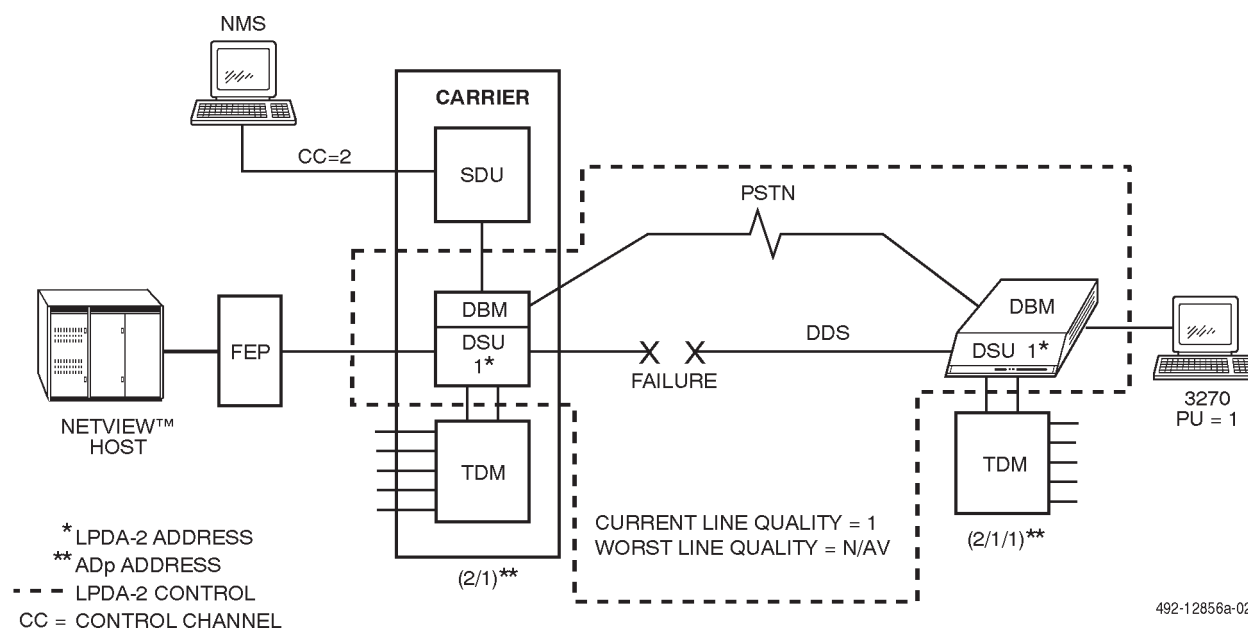

Figure 4-42. Dial Backup with LPDA-2 Configuration
2. **Link Segment Level 2.** An extended control DSU, if present, is typically assigned the address 2 (Figure 4-42).
The 3600 Series DSUs support NetView-initiated dial backup in a point-to-point configuration only (Figure 4-42). A DBM must be installed. The dial backup may be automated by the 3600 Series DSUs or initiated from NetView, NMS, or the DCP.